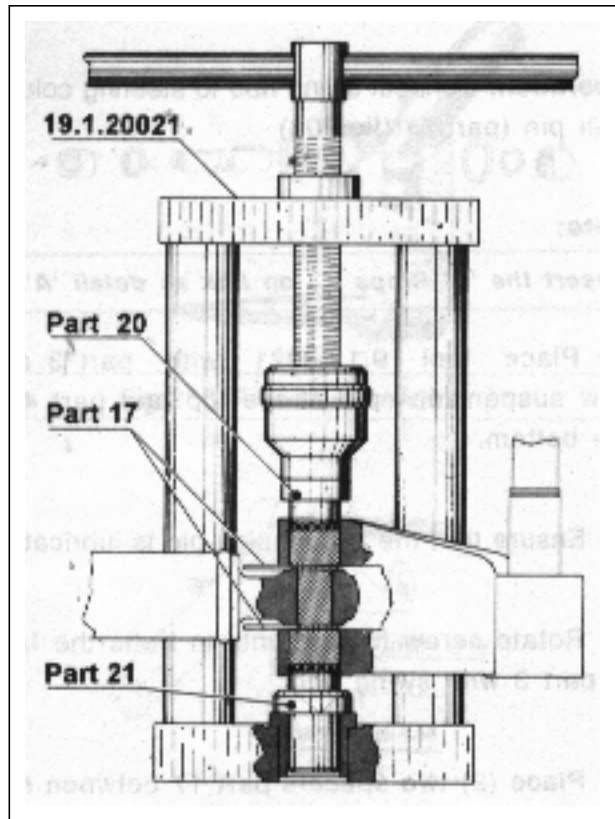

Fig. 208-Location of parts
- (l) Replace part 16 with part 20 at the top and part 22 with part 21 at the bottom. (fig.208)